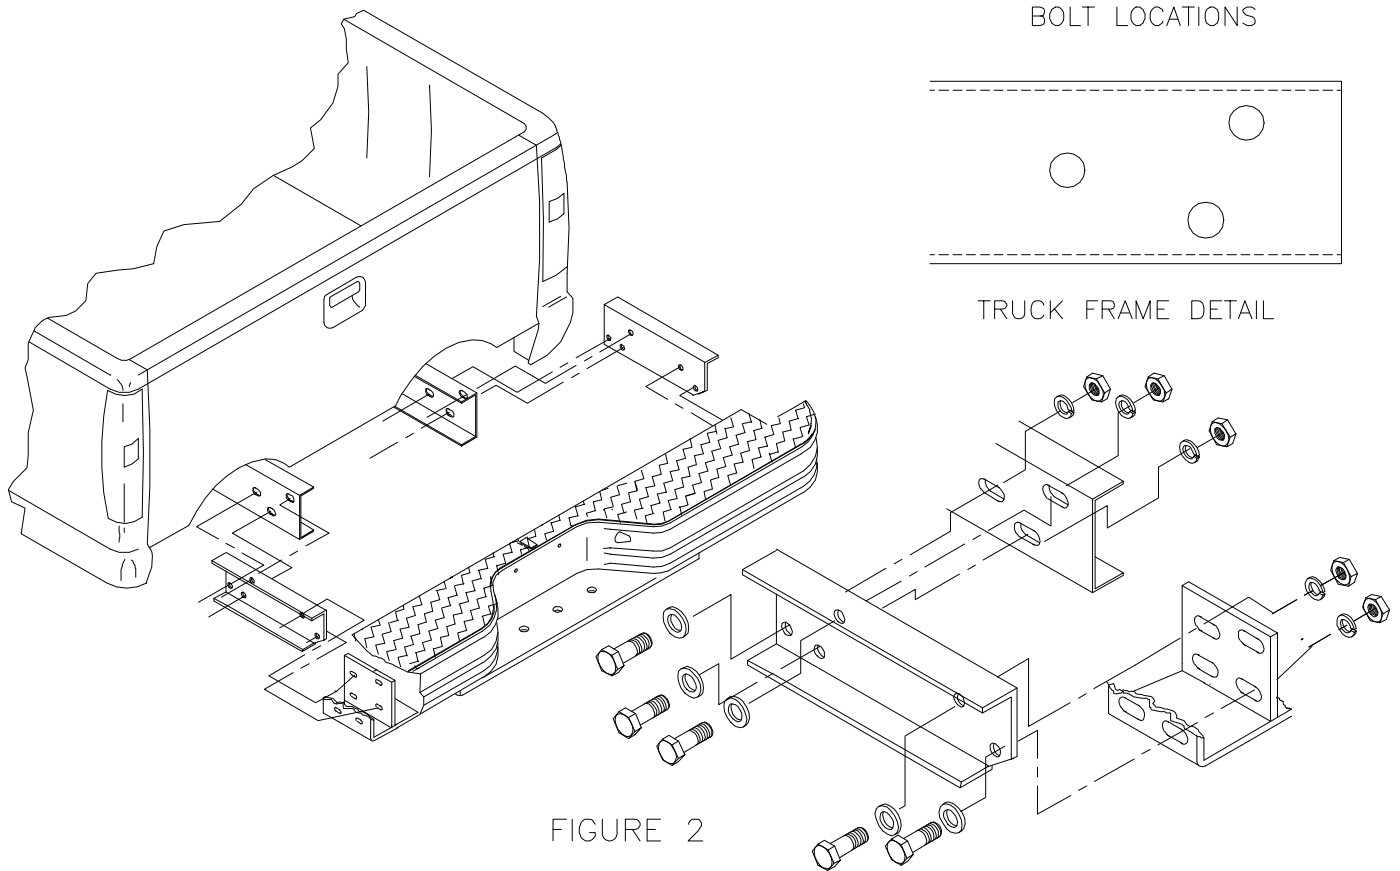

FIGURE 2
STEP 2: Using inner verticals, install bumper onto mounting brackets with brackets outside of bumper verticals. See figure 2. Use 1/2 inch hardware. DO NOT TIGHTEN.